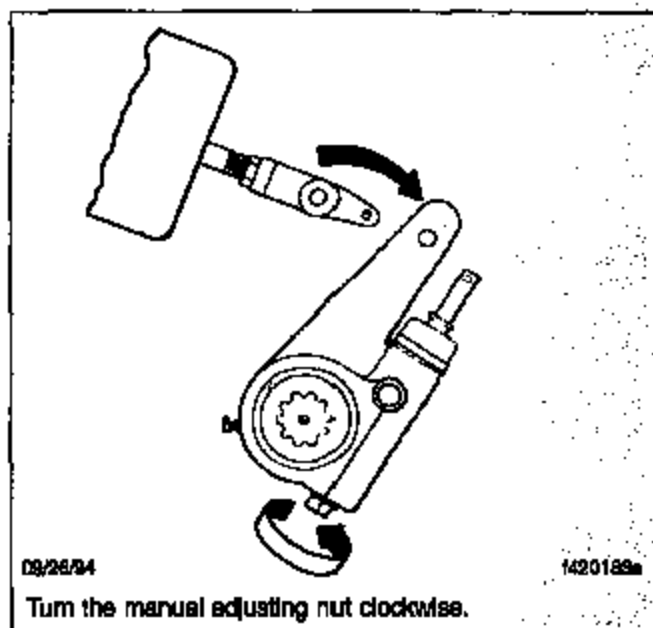

Fig. 2, Meritor Slack Adjuster Removal
3. Using a wrench, manually turn the square adjusting nut clockwise (as if tightening a right-hand threaded fastener) to move the slack adjuster away from the clevis. See Fig. 2.